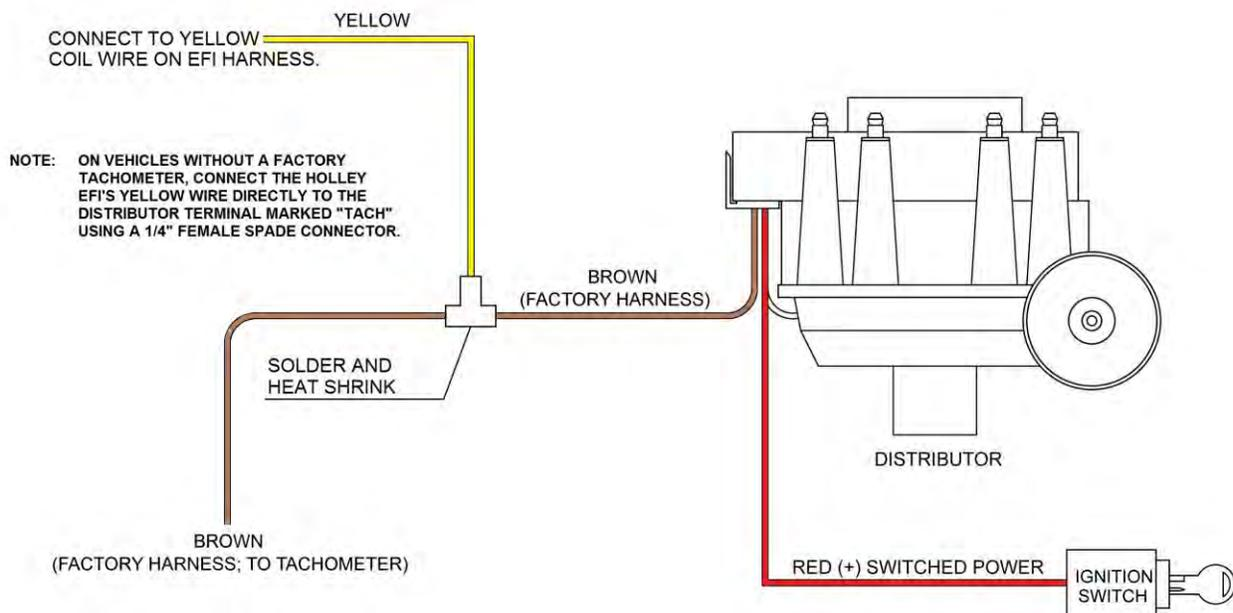

Figure 27
- 1) Any General Motors engine equipped with a factory large cap HEI distributor equipped with mechanical/vacuum advance (Figure 27).
Figure 27 below shows how to connect to a large cap HEI distributor.